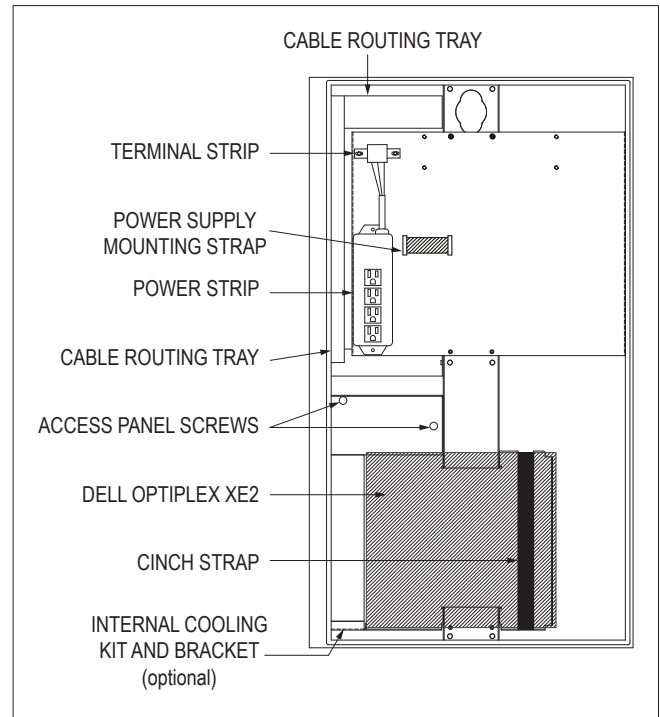

FIGURE 4 – ENCLOSURE WITH OPTIPLEX XE2 KIT
3. Refer to Figure 4. If power strip (part number MK-4OUTLET-xx) was purchased separately, install it at this time.